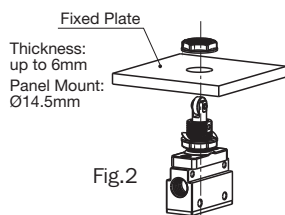

Fig.2
- Model K3M3V can also be mounted using the panel mount nut as show in Fig.2 for mounting.